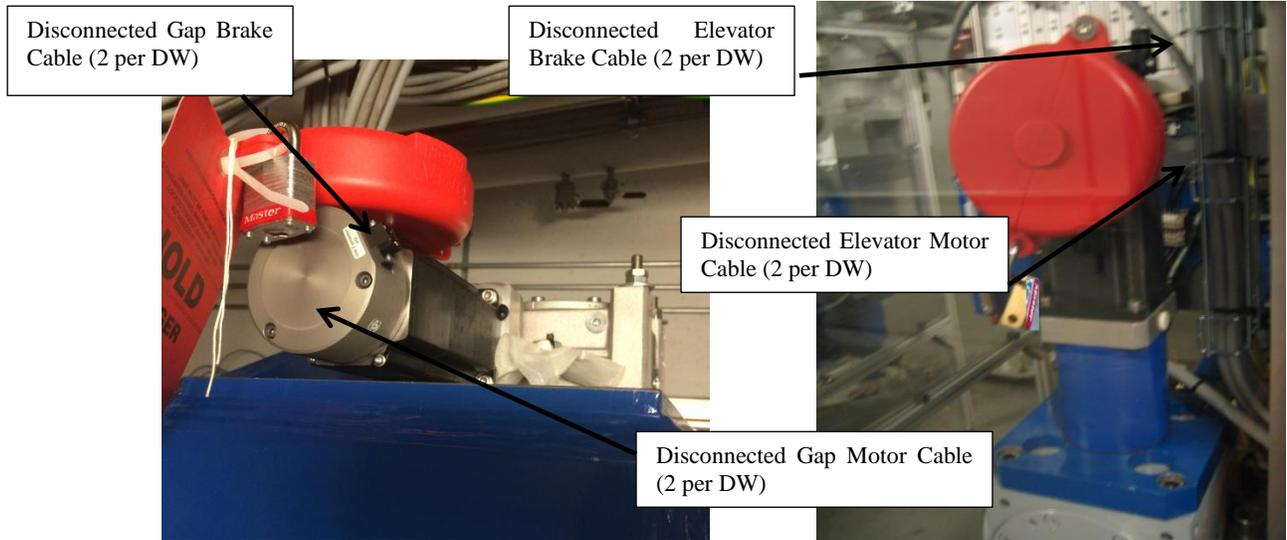

Figure 6-6 & 6-7: LOTO applied to Gap(left) and Elevation (right) Motors(total four places per DW).
Note: Each motor cable routed within the DW is labeled with respective termination symbol. See Figure 6-6, "M1 Power", for example; (e.g., M2 Power, M3 Power..., and M4 Power).
6.1.14 For each Gap Drive motor atop the tower (two places) clamp a Plug Lockout Disc over the motor connector. See Figure 6-6.
6.1.16 Locate the motor brake cables as shown in Figure 6-6 and 6-7 (total of four).